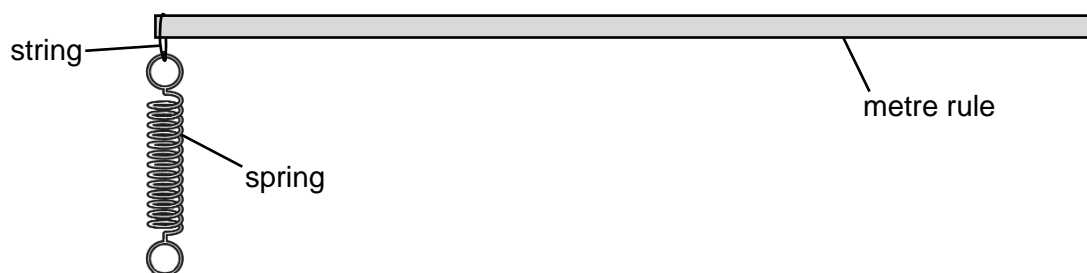

Fig. 2.1
- (a) (i) You have been provided with a metre rule with a spring attached, as shown in Fig. 2.1.